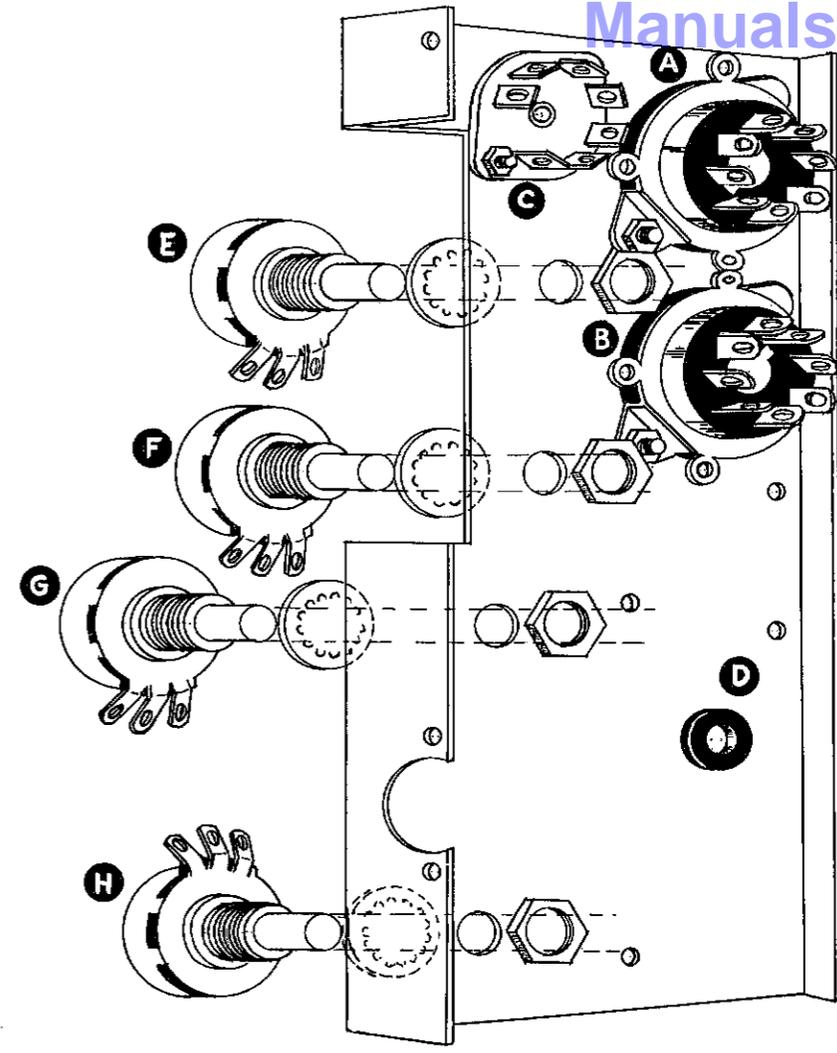

Figure 1. Chassis showing mounting of parts.
- (X) Mount an octal socket in location A. Use 6-32 screws, lockwashers and nuts. It may be necessary to bend the ground lug on the socket near the edge of the chassis. Refer to Figure 1.
- (X) Mount an octal socket in location B. Use 6-32 hardware.
- (X) Mount a 7-pin miniature socket in location C. Use 3-48 screws and nuts. Lockwashers are not used.
- (X) Mount a 3/8" rubber grommet in location D.